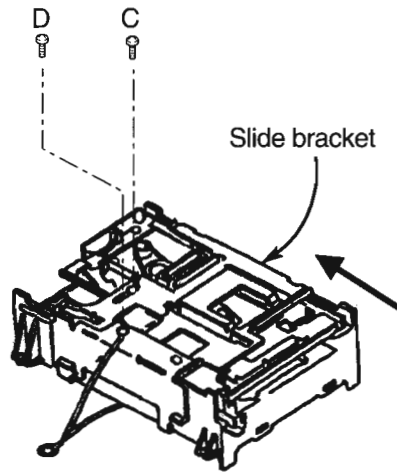

Fig.3
■ Removing the MD traverse mechanism (see Fig.3,4)